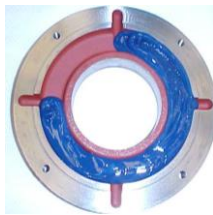

Figure 8.8: Outer bearing cap
- Fill up to $\frac{3}{4}$ of the inner and outer bearing cap deposits with the recommended grease (Figure 8.8) and lubricate the rolling bearing with enough grease before assembling it;